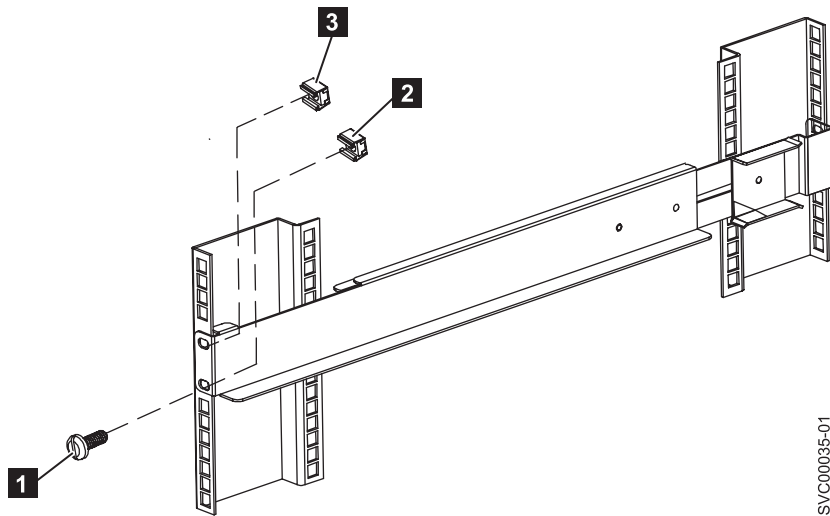

Figure 329. Securing the front rail on the 2145 UPS-1U
7. Install two clip nuts (**2** and **3** in Figure 329 on page 318) to the front of the rack, then attach the rail using just one M6 x 10 screw in the bottom mounting hole **1**.